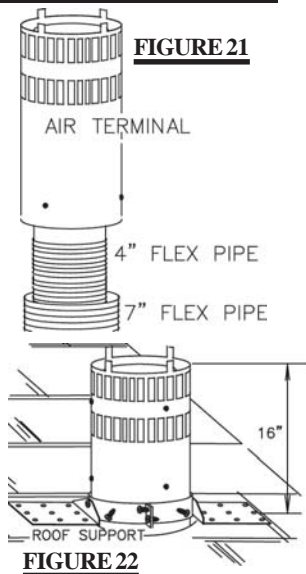

FIGURE 21
1. Fasten the roof support to the roof using the screws provided. **FIGURE 21**. The roof support is optional. In this case the venting is to be adequately supported using either an alternate method suitable to the authority having jurisdiction or the optional roof support.